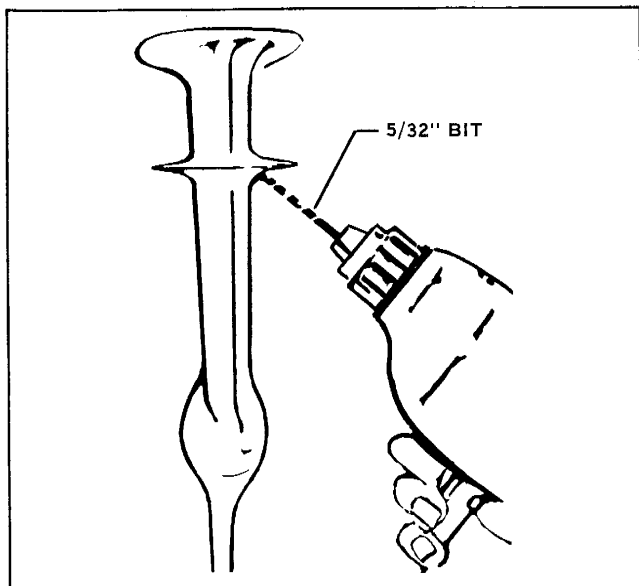

FIGURE 9
- d. Drill two $5/32$ " diameter holes in each side of gearcase at points marked. Holes should angle upward at approximately a 45° angle. See Figure 9. Remove metal chips from inside gearcase.